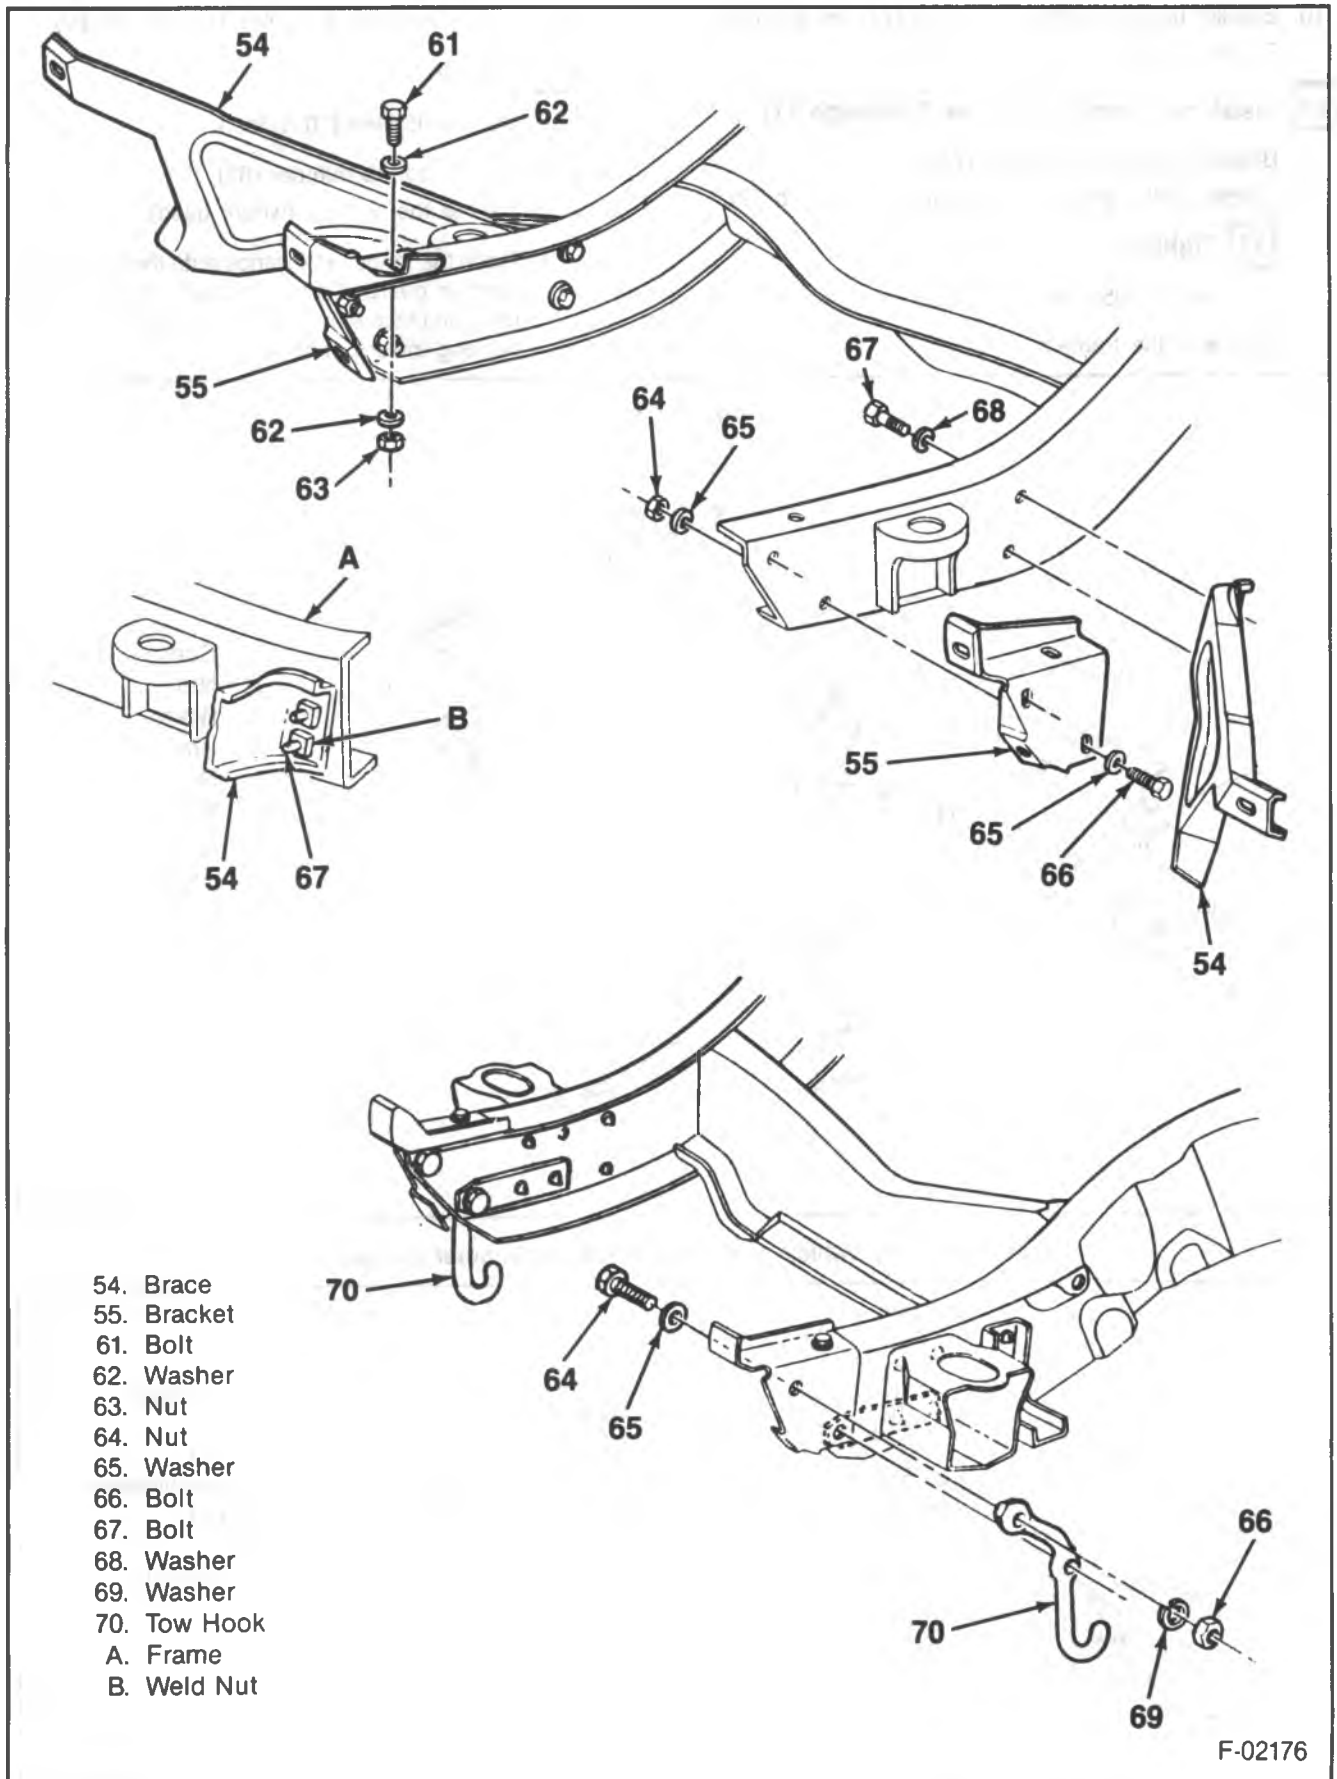

Figure 7 — R/V Front Bumper Brackets, Braces, and Tow Hooks
7. Brace bolts and washer (67 and 68) from the inside of the frame rail (figure 7).
8. Braces (54).
10. Tow hooks (70) (where used).
11. Brackets (55).